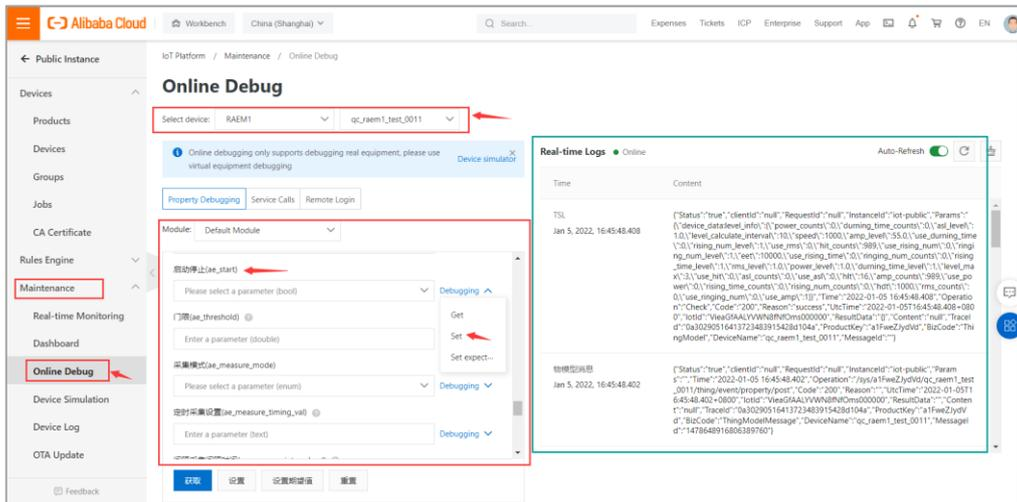

Fig. 4-60 Qingcheng Alibaba Cloud
- (5) Click “Online Debug” tab or under the “Maintenance” on the left menu to enter the online debugging page. Select online devices and start debugging and configurations. To modify the configurations, enter the new configuration values in the text-box on the left column and click “Debugging” >> “Set” to send the configurations to the devices. Click “Get” to read the current settings. (Figure 4-60)